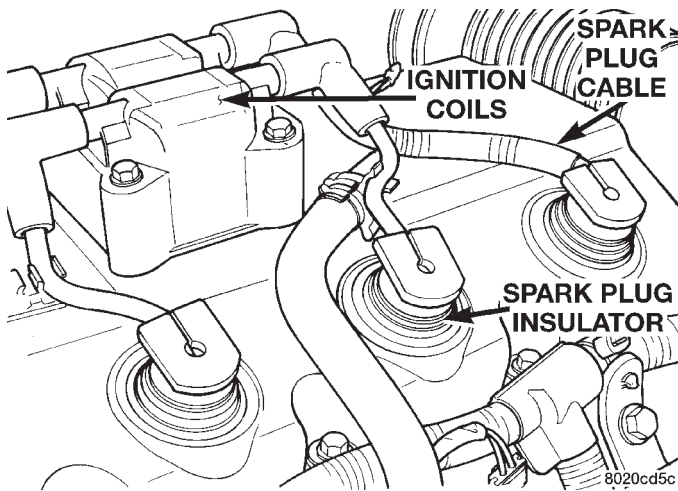

Fig. 28 Ignition Coil Pack
- (1) Remove ignition coil pack (Fig. 28).
- (2) Remove the cylinder head cover bolts.
- (3) Remove cylinder head cover from cylinder head.